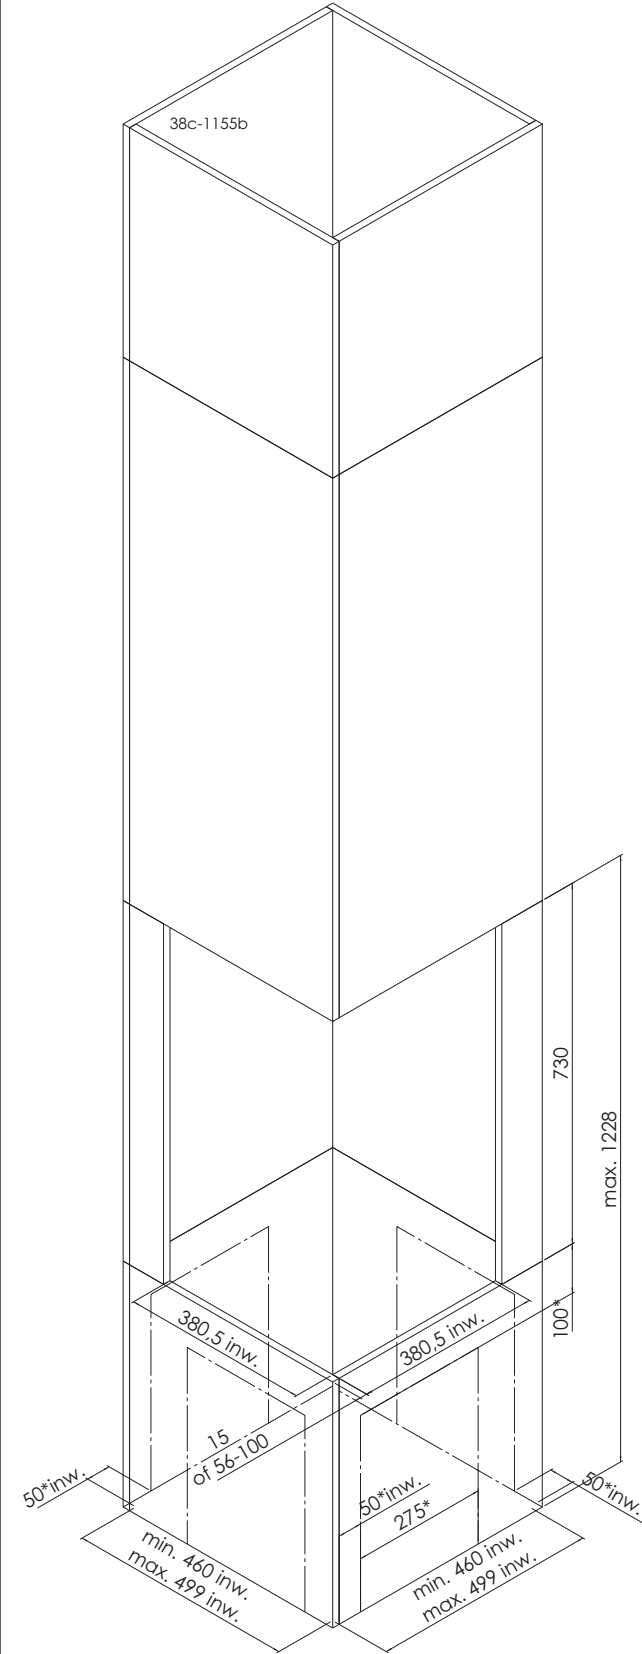

fig. 3
Construct a chimney breast as shown in fig. 3 or 4.
N.B.: the dimensions shown in figs. 3 and 4 are internal dimensions!
1. Outset, i.e. the front is proud of the chimney breast (figures 3 and 5).
The feet of the appliance must also be taken into account. Figs. 3, 4, 5 and 6 show the area in which the service flap can be fitted.